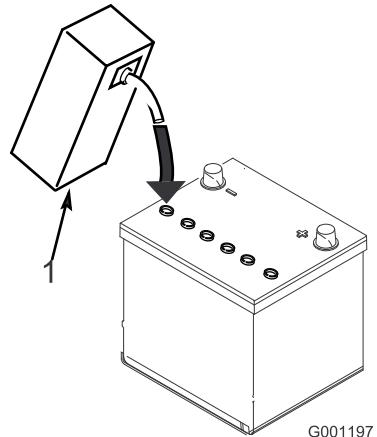

Figure 7
- Carefully fill each cell with electrolyte until the plates are covered with about 1/4 inch (6 mm) of fluid (Figure 7).
- Allow approximately 20 to 30 minutes for the electrolyte to soak into the plates. Fill as necessary to bring the electrolyte to within about 1/4 inch (6 mm) of the bottom of the fill well (Figure 7).